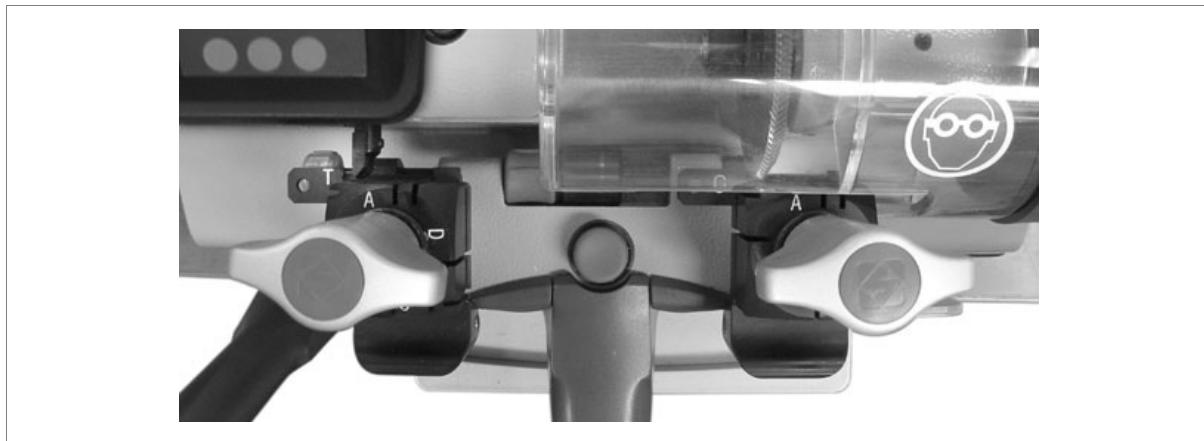

Fig. 14
- 5) Take the templates in contact with cutter and tracer point (fig. 14, page 15).